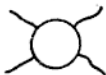

Fig. 16-3.
2. *Stayed areas.* Cracks of any length in stayed areas may be repaired by fusion welding but multiple or star cracks (Fig. 16-3) radiating from rivet or stayed holes shall not be welded.